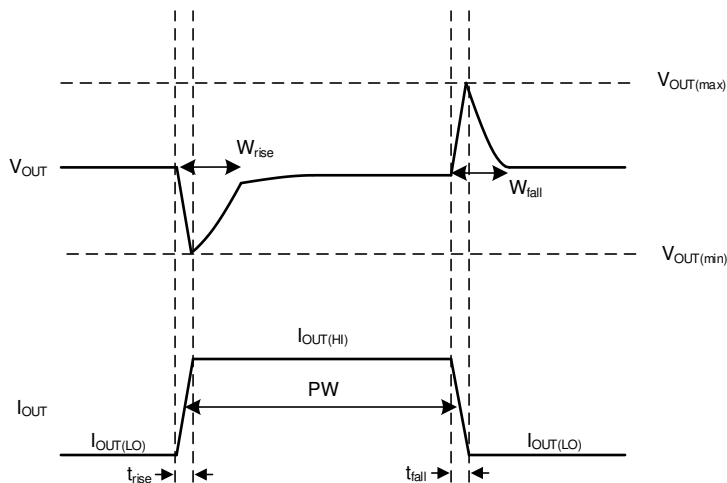

图 9-10. Simplified Load Transient Waveform
The transient response peaks ($V_{OUT(max)}$ and $V_{OUT(min)}$) are improved by using more output capacitance; however, doing so slows down the recovery time (W_{rise} and W_{fall}). 图 9-10 shows these parameters during a load transient, with a given pulse duration (PW) and current levels ($I_{OUT(LO)}$ and $I_{OUT(HI)}$).